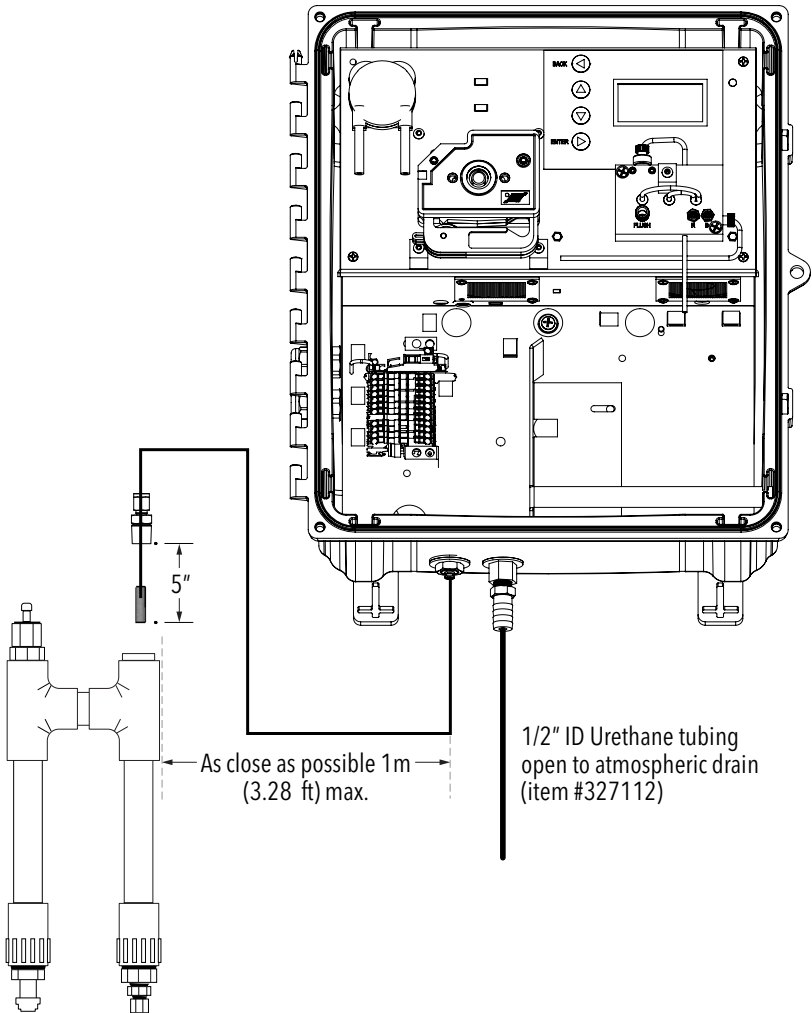

Figure 1: YSI 3017M DPD Chlorine Analyzer and Sample Inlet Device shown in the recommended installation configuration.
3. Install the Sample Inlet Device in its designated location (if applicable). Below and to the left of the analyzer is an ideal position. See **Figure 1**.
The ideal location for the Sample Inlet Device is below the 3017M Chlorine Analyzer and as close as practical to the 1/8-inch quick-connect fitting at the bottom of the analyzer. The installation location of the Sample Inlet Device should not exceed 3.25 ft. (1 m) from the analyzer. See **Figure 1**.